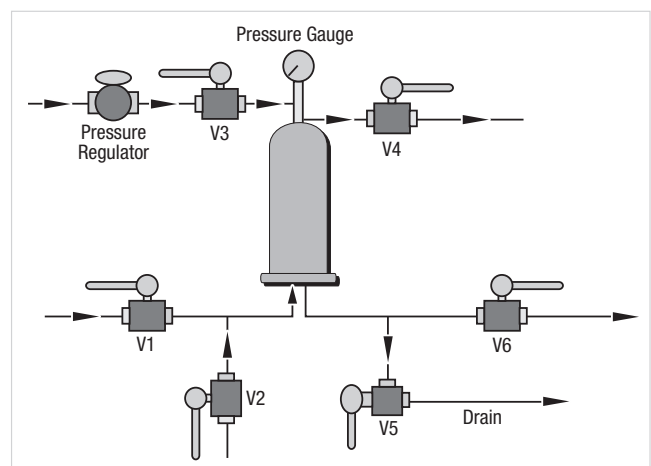

Figure 5. PHT (manual method).
2. Procedure (Manual Testing — Figure 5)
- Configure the system as shown in Figure 5.